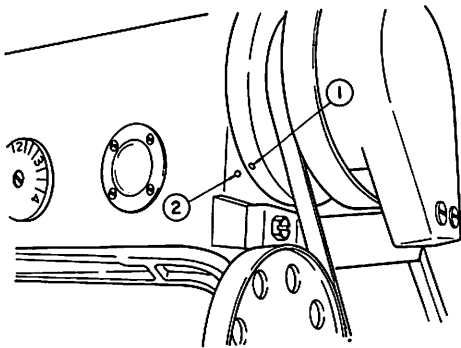

Fig. 37
1) Rotate the hand wheel toward the regular direction and as shown in Fig.37, bring the white point ① of the hand wheel so that it will match with the red point ② of the frame.